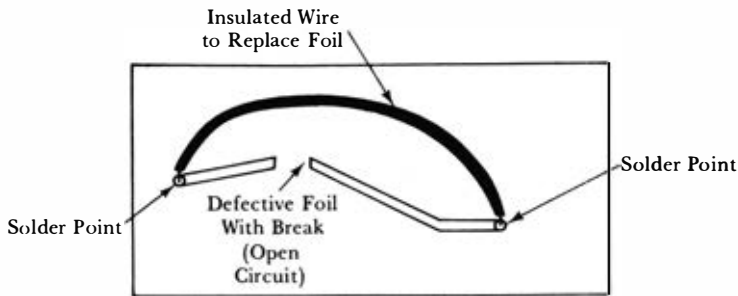

Figure 7-7. Repair of a broken foil conductor on a circuit board.
Another fault in this category consists of a broken foil conductor on a circuit board. Sometimes a break is very small and can be verified visually only under a magnifying glass. Such cracked printed-circuit (PC) conductors are often intermittent and cause the amplifier to stop operation and then to resume operation at arbitrary intervals. Sometimes an intermittent connection of this type can be localized by gently flexing the circuit board with the eraser end of a pencil. In any event, whenever a conductor is open-circuited, an ohmmeter will indicate an infinite resistance across the break. Note, however, that a misleading indication could be obtained in the event that the ends of the broken conductor are connected to circuitry that provides a resistive return path. This point can be established by inspection of the circuit diagram for the amplifier. A broken PC conductor is repaired with a jumper wire, as pictured in Fig. 7-7.